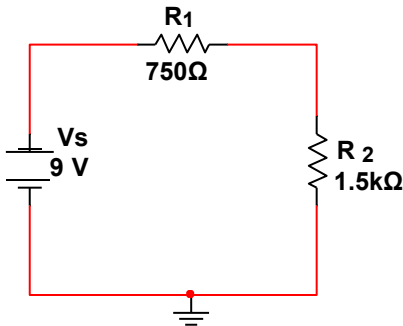

Figure P.1 – DC Series Circuit
Figure P.1 shows a DC circuit that has two resistors  $R_1$  and  $R_2$  connected in series with a DC Voltage Source.
1. **Analyze** the circuit in **Figure P.1**.